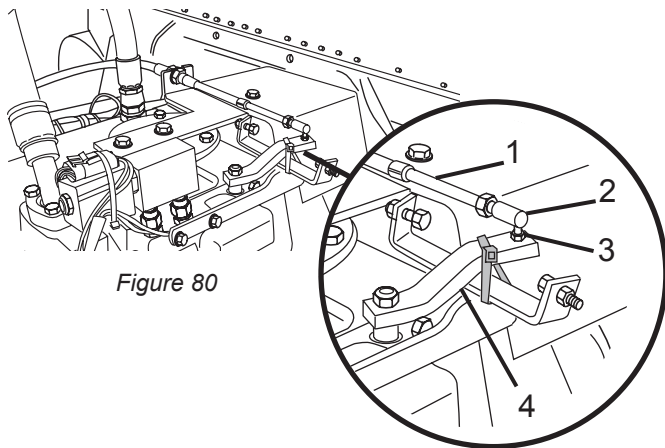

Figure 80
1. Move the pump control lever (Figure 80, Item 4) to engage the drum drive in the CHARGE direction. Move the lever until the drum is rotating at approximately 1 to 1-1/2 RPM in the CHARGE direction.
3. Once the truck is delivered to the repair shop and properly parked, return the pump control lever to the neutral position, and connect the control cable (Figure 80, Item 1) to the pump control lever (Figure 80, Item 4), by pulling back the head (Figure 80, Item 2) of the cable and installing the cable over the pivot (Figure 80, Item 3). Release the cable head (Figure 80, Item 2).
5. Call Revolution Support at (855) 202-6491 if you have questions or need help.